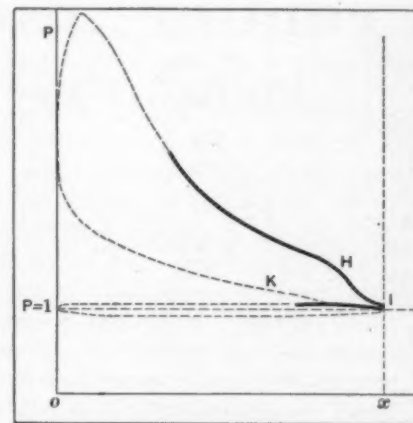
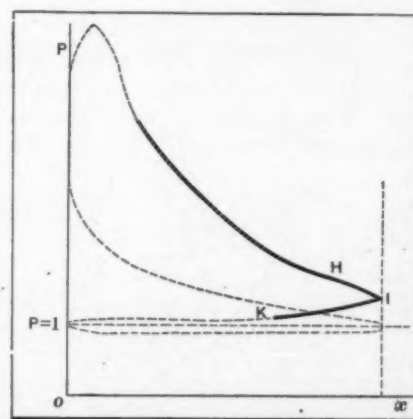

Fig. 9—Exhaust opening too late. There is notable counter-pressure during first part of scavenging
Fig. 10—Exhaust valve opening too early. Curve will be seen to fall off before piston reaches end of stroke
**EXHAUST.**—If the expansion curve as shown in Fig. 9 runs into the adiabatic theoretical curve up to the point I instead of falling off at the point H as in Fig. 2 it shows that the exhaust valve opens too late. The first part of the exhaust curve I K therefore is much above the line  $P = 1$  denoting a counter pressure behind the piston. Fig. 10 shows the counterpart of the preceding one in which the exhaust takes place too early.